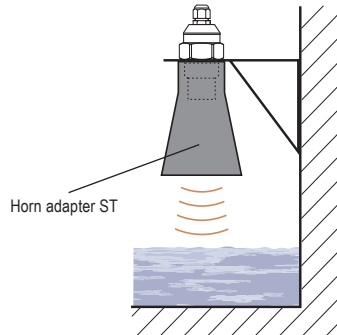

Fig. 13: Horn adapter installation
- p) The level meter should not be installed at places where ultrasonic signal **false reflections** caused by stirrer blades might occur (Fig. 13).